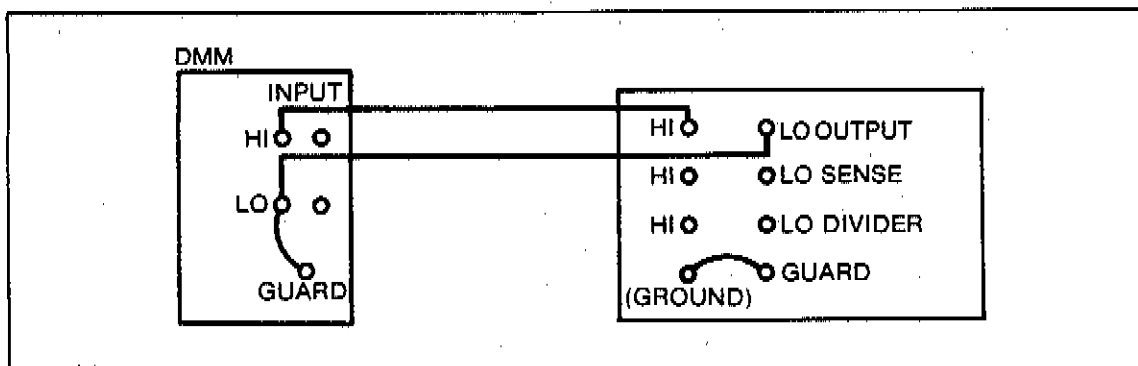

Figure 3-5. Output Voltage Test: DC CALIBRATOR OUTPUT
- a. Connect the equipment as shown in Figure 3-5.